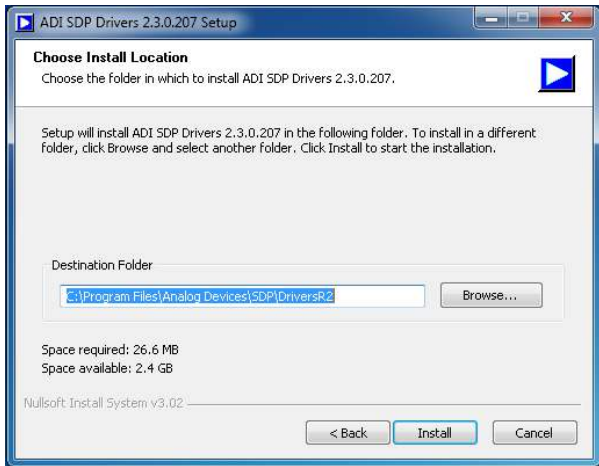

Figure 13. **Choose Install Location**
- Choose the destination folder for the ADI SDP drivers and click **Install**. The default folder is shown in Figure 13.